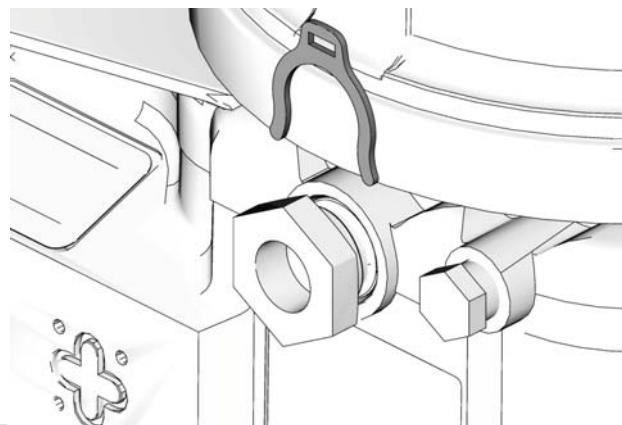

FIG. 13
Pump volume control is set using either no (0) spacers, 1 or 2 spacers (FIG. 13).